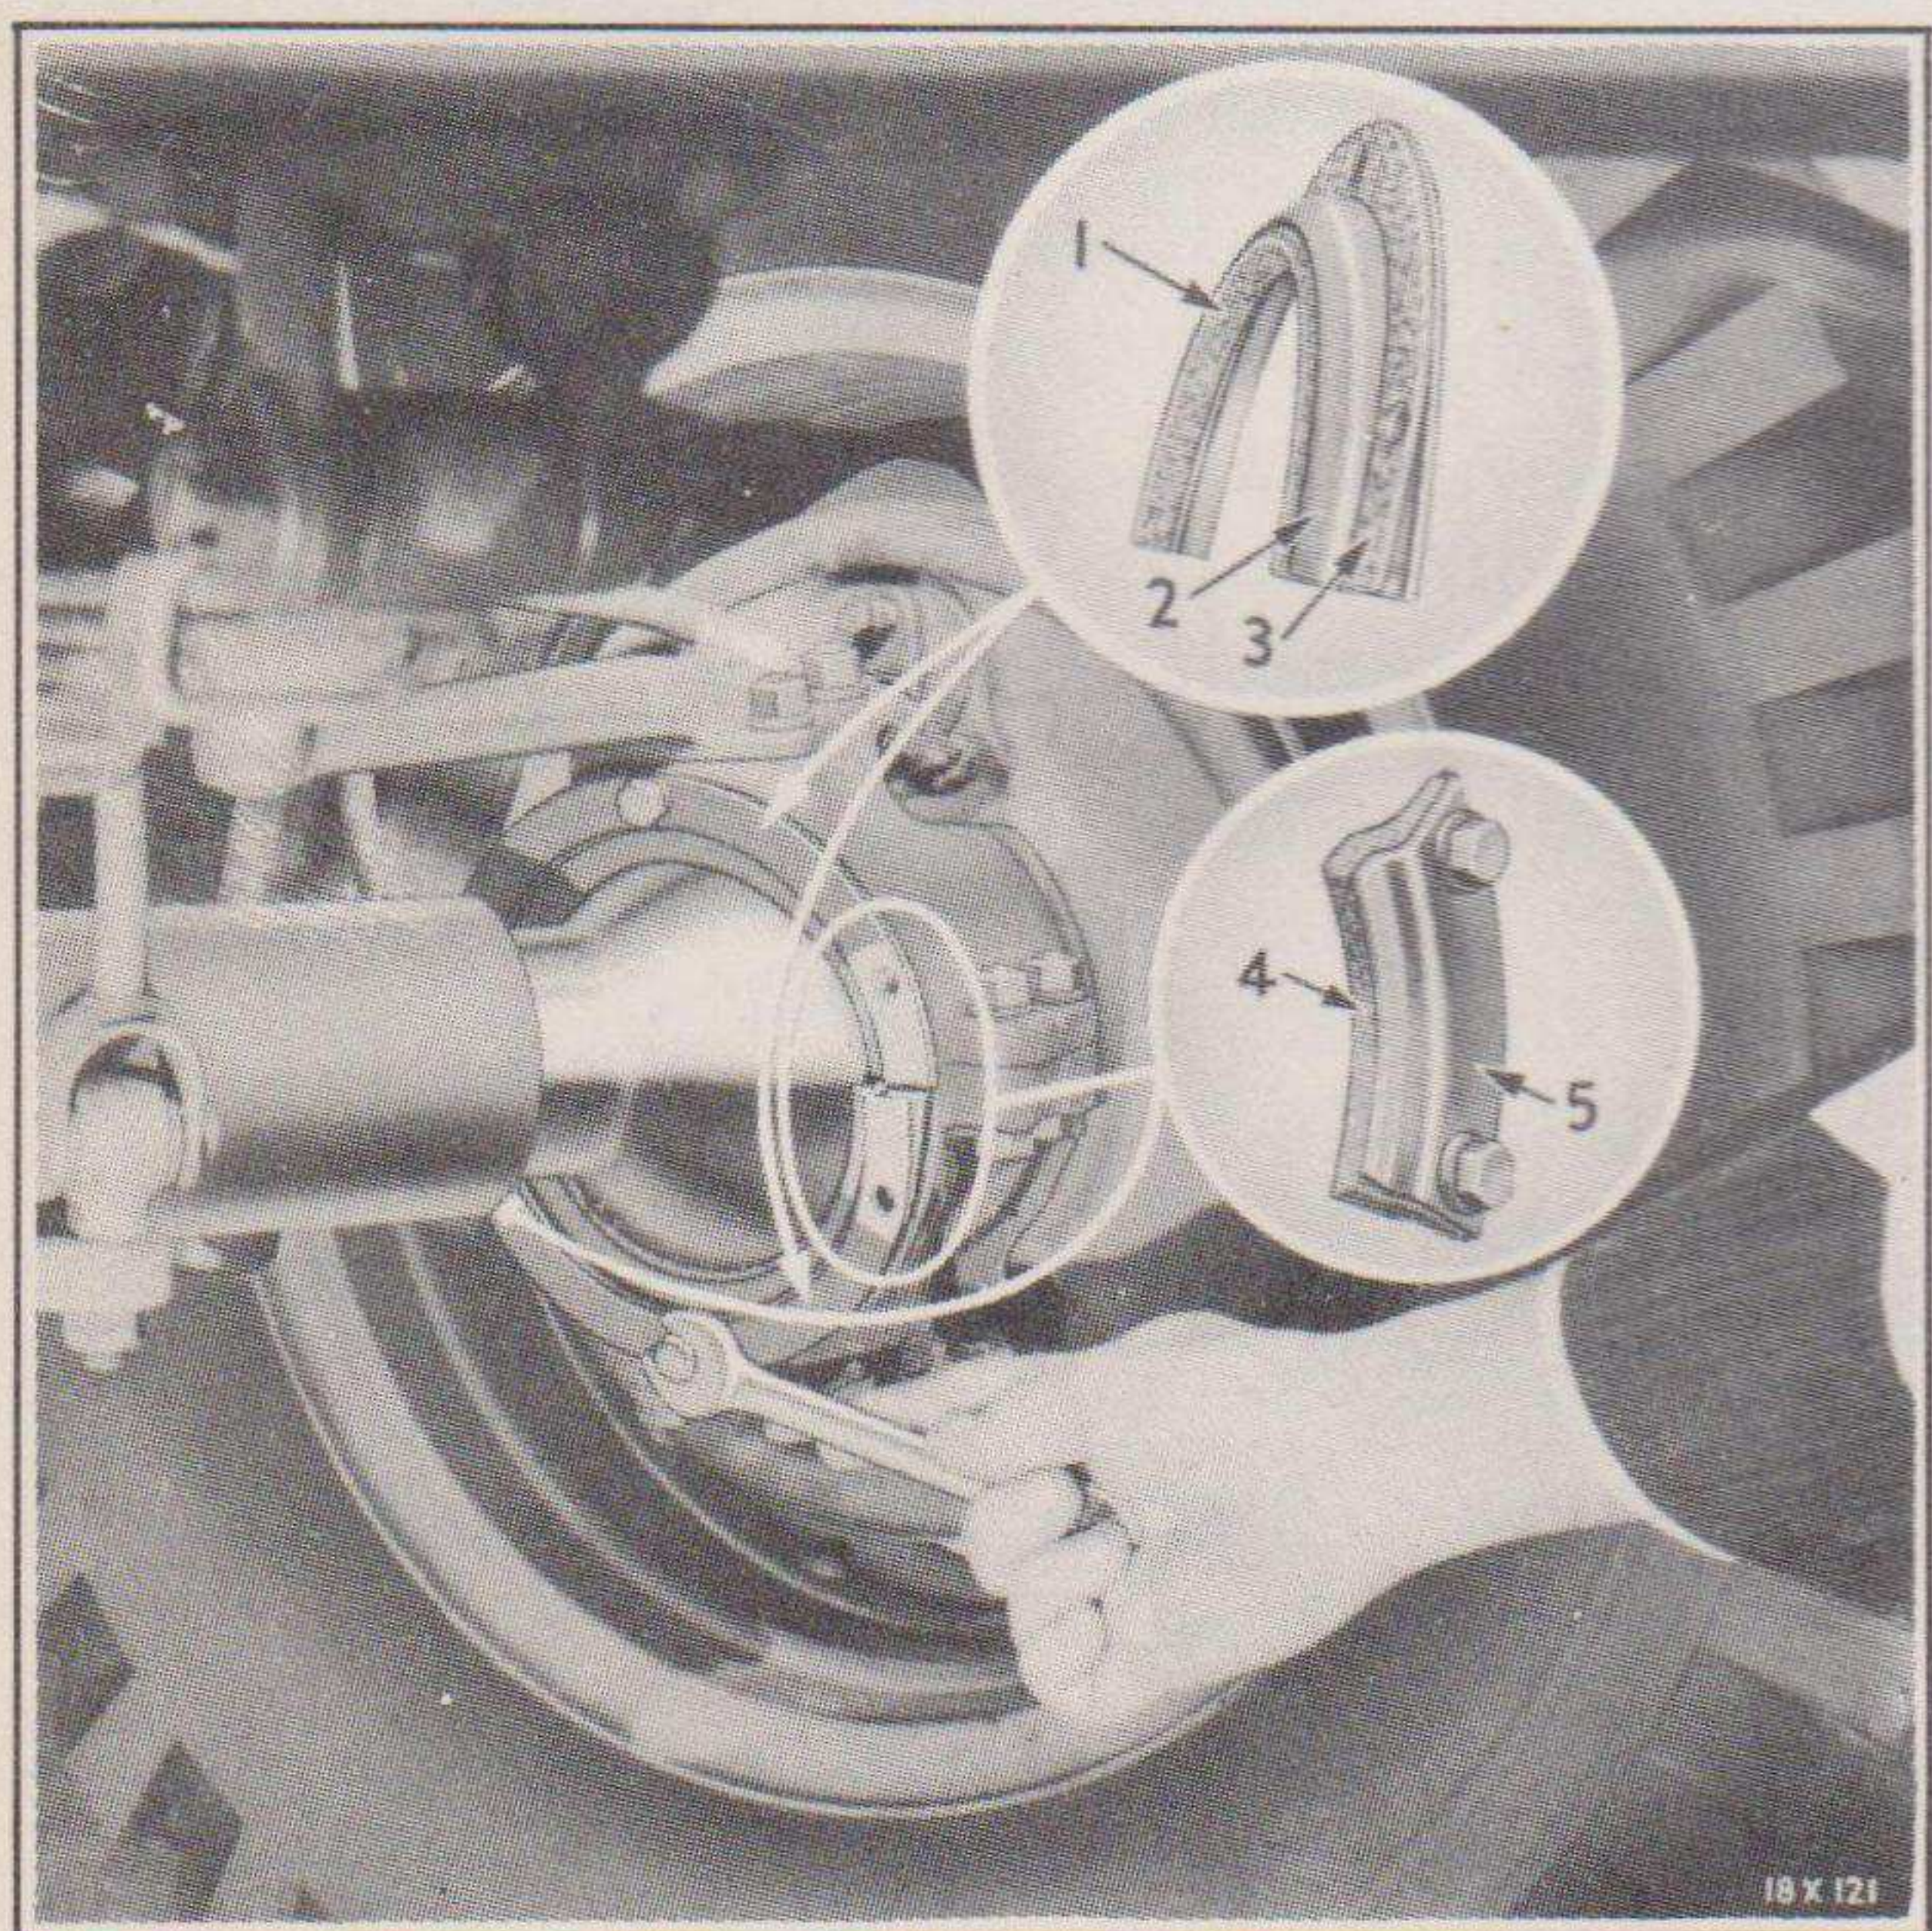

Fig. 33—Removing Steering Knuckle Flange Oil Seals
- (b) Remove the two retainer joint oil seal retainers together with the upper and lower halves of the oil seal retainer. See Fig. 33.